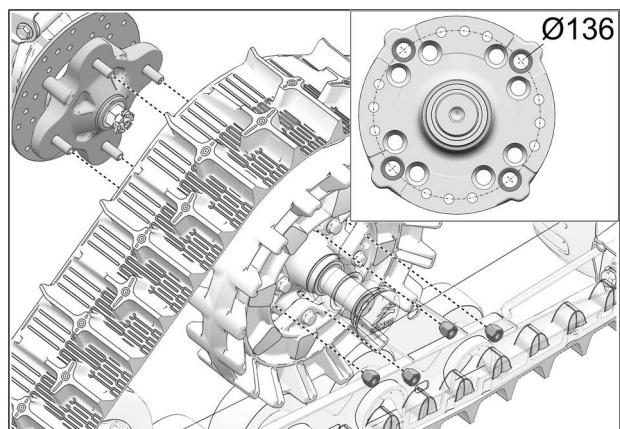

Fig. 20
10. Secure undercarriage to front hub using the vehicle's own lug nuts. Use bolt circle **Ø136 mm**. See Fig. 20